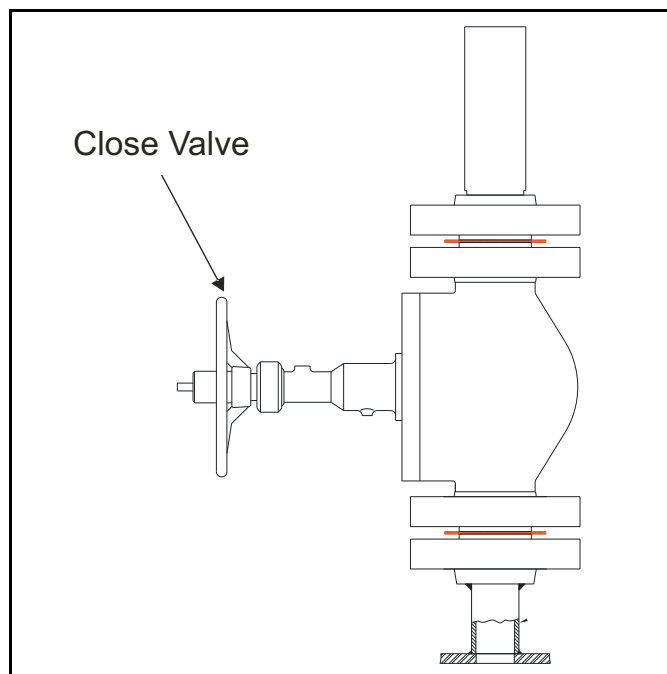

Figure 10: Closing the Ball Valve
6. Retract the drill bit of the hot-tapping mechanism and "close" the ball valve (see *Figure 10* below).